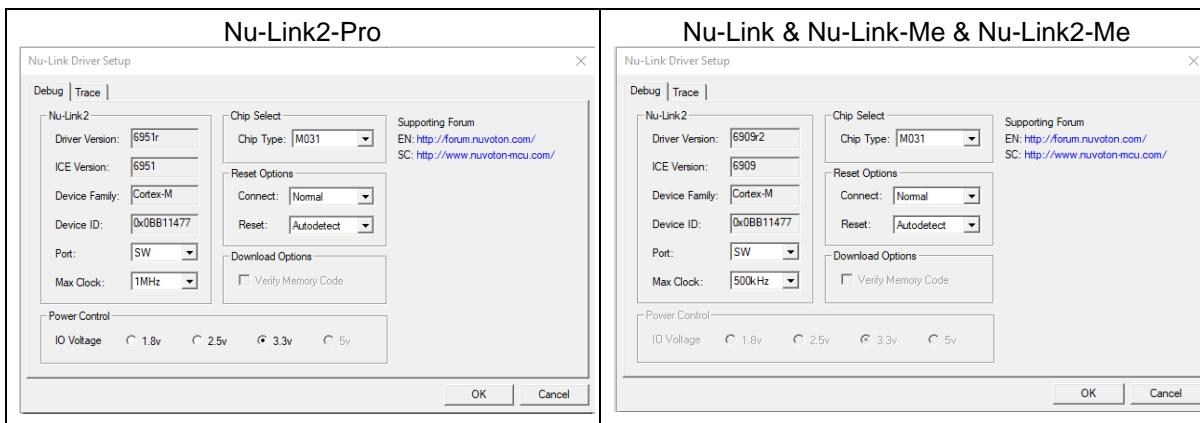

Figure 5.2-14 Nu-Link2-Pro Parameter Settings
- (4) Click the **Settings** button to open the *Debug* form, as shown in Figure 5.2-14. Refer to Table 5.2-1 for each setting description. The setting options shown in the *Debug* form may vary depending on the type of the Nu-Link2-Pro used.